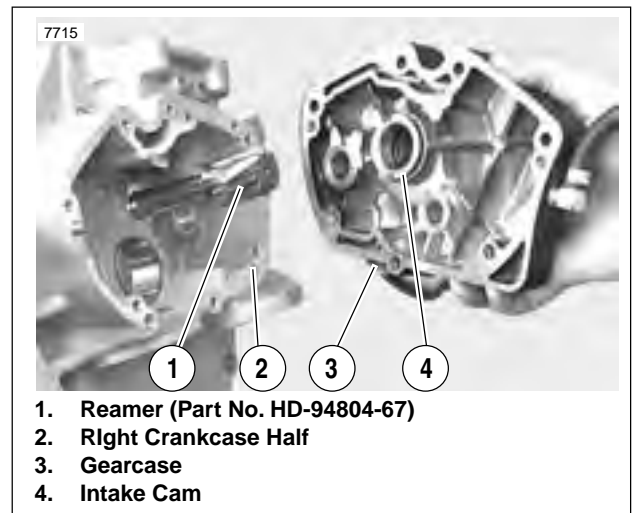

Figure 3-108. Line Reaming Intake Camshaft Bushing
2. See Figure 3-108. Install PINION SHAFT BUSHING REAMER PILOT (Part No. HD-94812-87) into right crankcase roller bearing. Insert PINION SHAFT BUSHING REAMER (Part No. HD-94812-1) through the pilot.